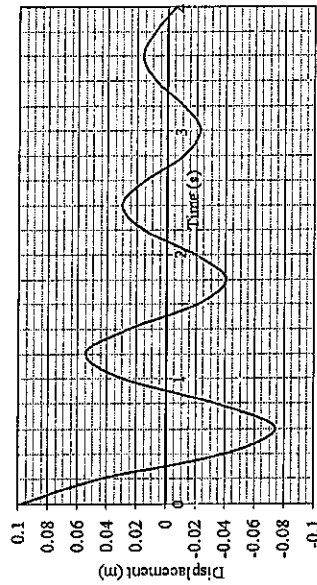

Figure 4(b)
- Determine the damping ratio (ζ) and natural frequency (ω_n) extracting necessary data for this calculation from the graph in Figure 4(b). (4 marks)